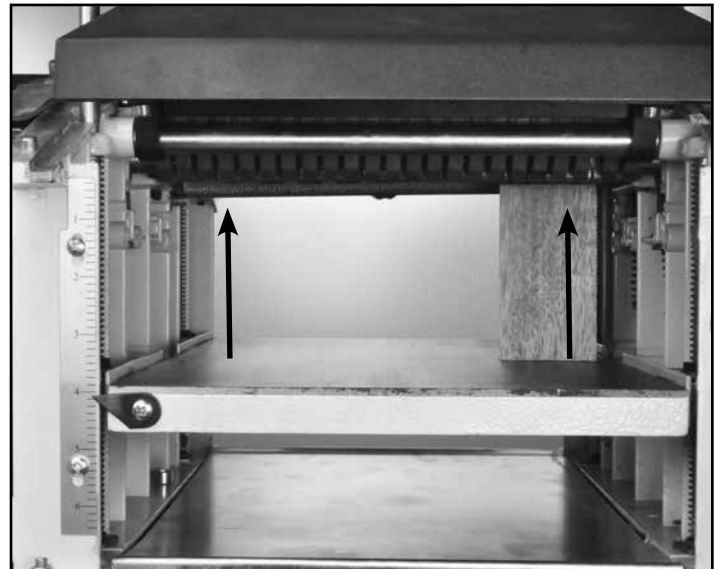

FIG. 23
4. Place a Gauge Block (FIG. 23), or other measuring tool, onto the planer table, directly under the cutterhead.